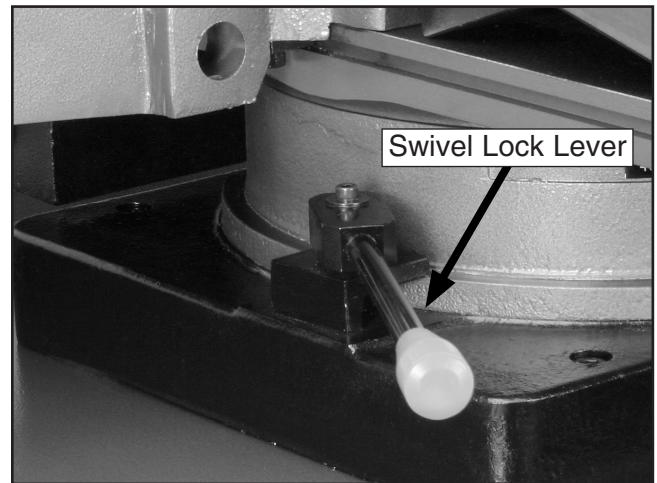

Figure 20. Swivel lock lever.
3. Loosen the swivel lock lever (**Figure 20**), rotate the turret to the desired angle, then retighten the swivel lock lever.